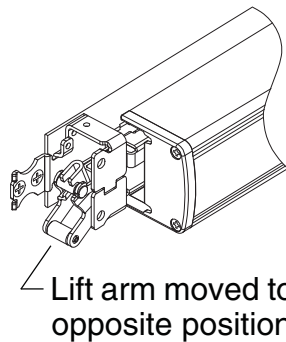

Figure 2
2. Remove lift arm and reinstall on opposite side (Figure 2).